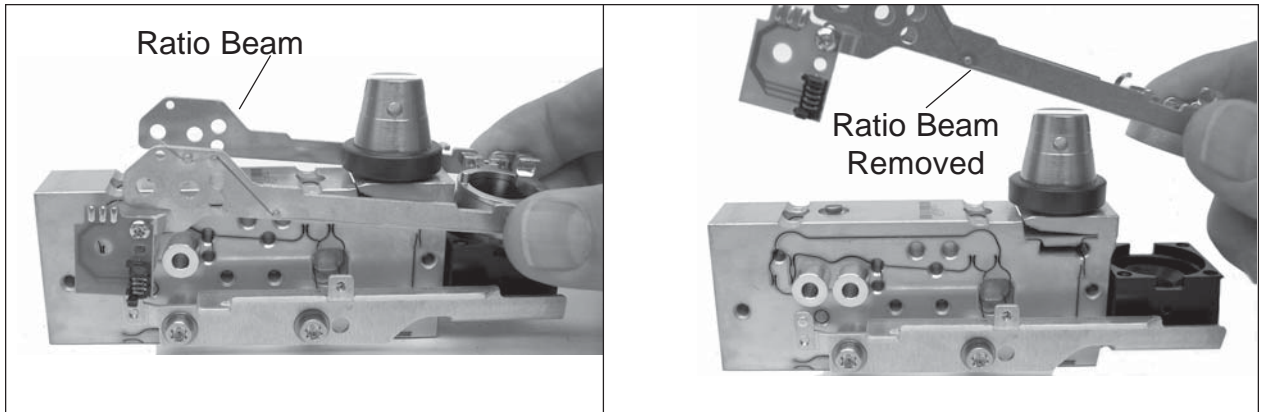

Figure 3-55. Removing the Ratio Beam.
12. Carefully lift out the Ratio Beam as shown in Figure 3-55
6. Refer to Figure 3-55 and carefully place the Ratio Beam into position in the Load Cell.